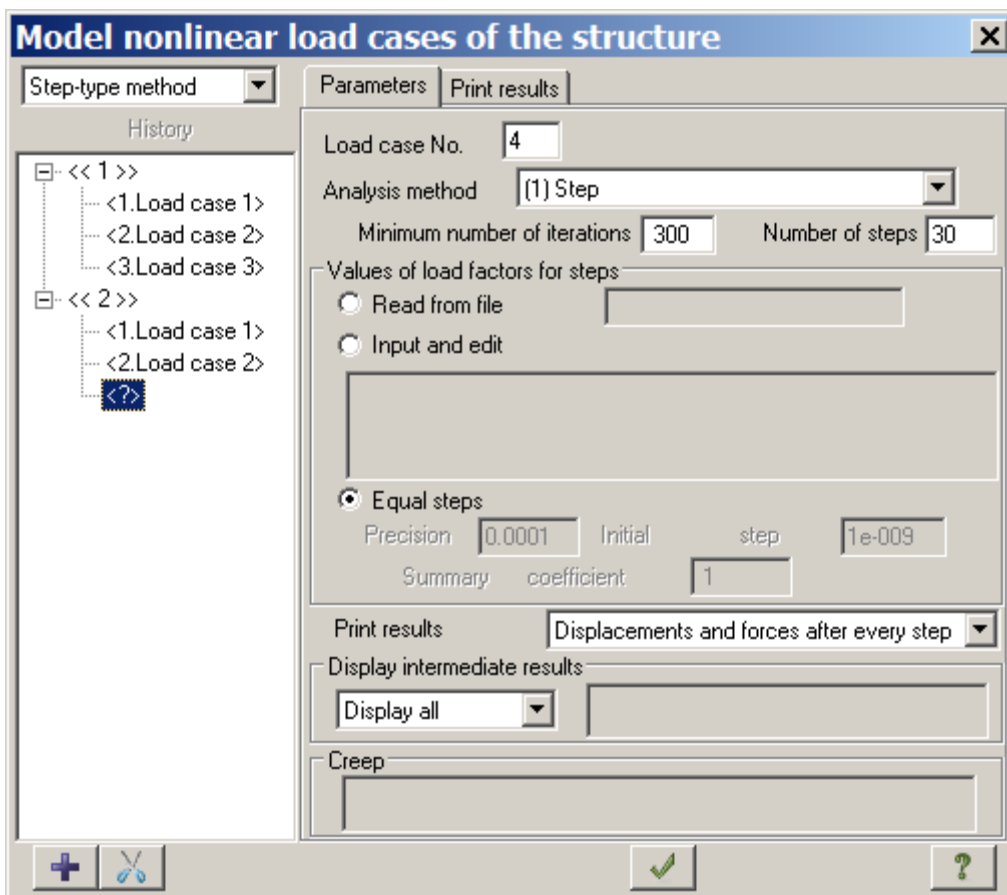

Figure 7.23 Model nonlinear load cases of structure dialog box
- ⇒ In the **Model nonlinear load cases of structure** dialog box (see Figure 7.23), under **History**, select the first history of loadings and click the **Add** button .
- select **Step (1)** in the **Analysis method** list box;